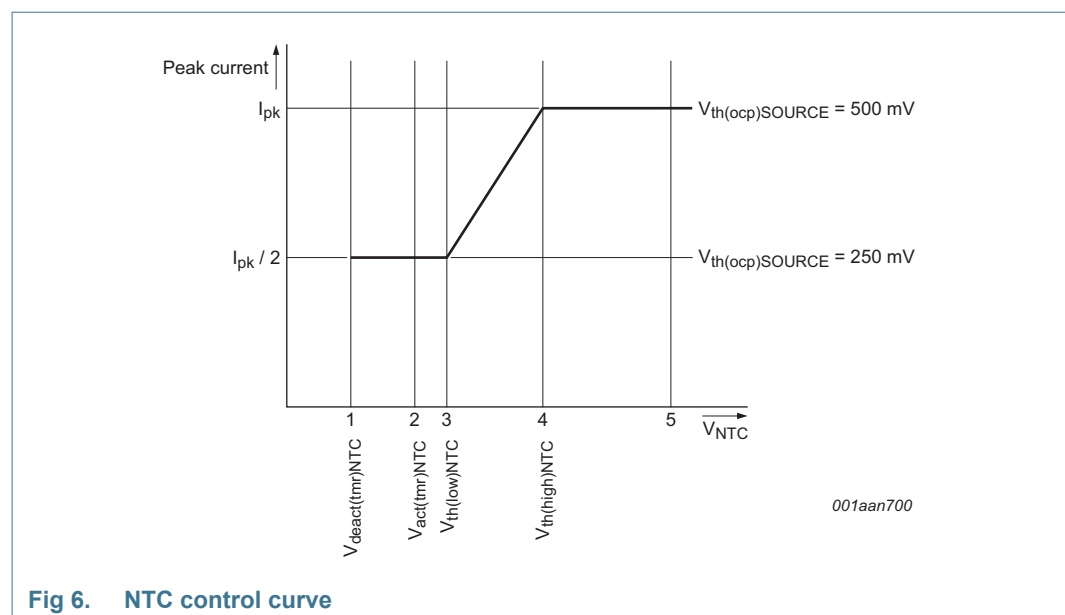

Fig 6. NTC control curve
The NTC pin can be used as a control method for LED thermal protection. Alternatively, the pin can be used as an input to disable/enable light output using a digital signal (PWM regulation). The pin has an internal current source that generates the current of $I_{offset(NTC)}$. An NTC resistor to monitor the LED temperature can be connected directly to the NTC pin. Depending on the resistance value and the corresponding voltage on the NTC pin, the converter reacts as shown in Figure 6.
When the voltage on the NTC pin exceeds $V_{th(high)NTC}$ (see Figure 6 \(4\)), the converter delivers nominal output current. When the voltage is lower than this level, the peak current is gradually reduced until $V_{th(low)NTC}$ is reached (see Figure 6 \(3\)). The peak current is now half the peak current of nominal operation. When $V_{act(tmr)NTC}$ is passed (see Figure 6 \(2\)), a timer starts to run to distinguish between the following situations:
- If the low-level $V_{deact(tmr)NTC}$ is not reached within time $t_{to(deact)NTC}$ (see Figure 6 \(1\)), LED overtemperature is detected. The IC stops switching and attempts to restart from the HV pin voltage. The converter restarts from an NTC protection shutdown when the voltage on the NTC pin exceeds $V_{th(high)NTC}$ (see Figure 6 \(4\)). It is assumed that the reduction in peak current does not result in a lower NTC temperature and LED OTP is activated.
- If the low-level $V_{deact(tmr)NTC}$ is reached within the time $t_{to(deact)NTC}$ (see Figure 6 \(1\)), it is assumed that the pin is pulled down externally. The restart function is not triggered. Instead, the output current is reduced to zero. PWM regulation and consequently LED output current regulation can be implemented this way. The output current rises again when the voltage exceeds $V_{th(low)NTC}$.
The NTC pin can be used to make a soft start function. During switch-on, the level on the NTC pin is low. By connecting a capacitor (in parallel with the NTC resistor), a time constant can be defined. The time constant causes the level on the NTC pin to increase slowly. When passing level $V_{th(low)NTC}$ (see Figure 6 \(3\)), the converter starts with half of the maximum current. The output current slowly increases to maximum when $V_{th(high)NTC}$ (see Figure 6 \(4\)) is reached.